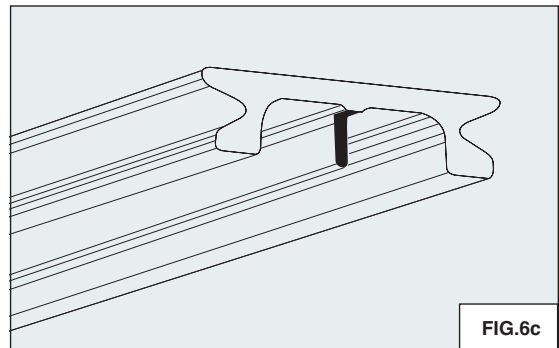

FIG.6c
- Install perpendicular decking next. Toe screw each board in the middle with a single screw. To achieve the smallest possible gaps with the breaker board, the center leg on the ends of the perpendicular deck boards can be removed with a handsaw and chisel to slide over the Ultra-clip. Remove a maximum of 1" of the center leg from the end of the deck board. (REFER TO FIG.6c). As an alternative, the Ultra-Clip can be trimmed down with a hand saw to fit between the foot and the center leg of the board. (REFER TO FIG.6d)